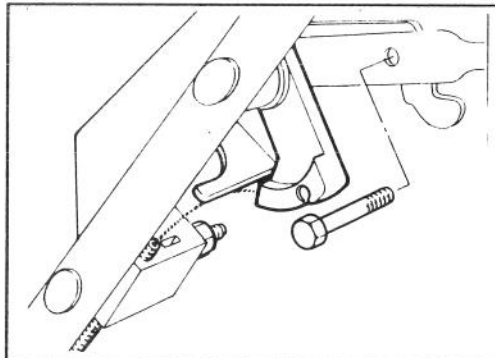

Figure 4
7. Secure control lever to control bar with a capscrew and locknut (Fig. 4).